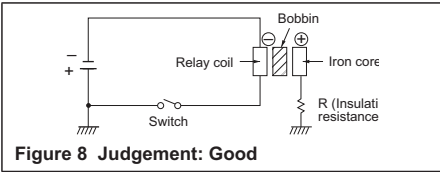

Figure 8 Judgement: Good
- The ⊕ side of the power source should be connected to the chassis. (Refer to Figure 8) (Common to all relays)